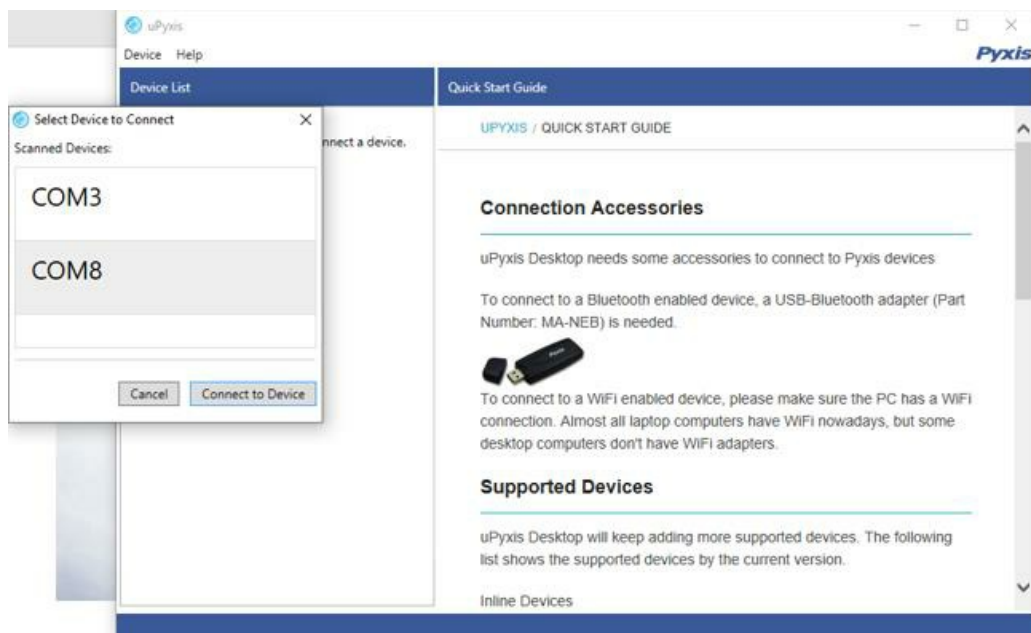

Figure 19 – Select a Comm Port
7. Select the Comm Port to make a connection. Normally only one Comm port is identified by uPyxis (Figure 19).